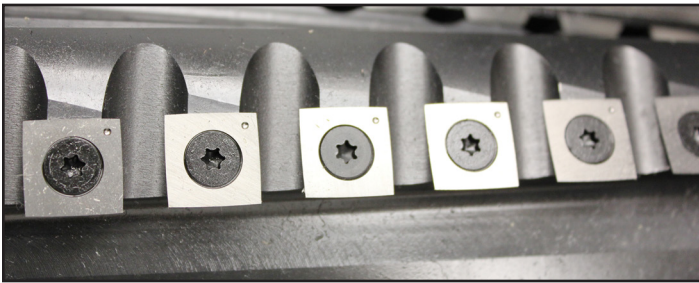

Figure 11: Cutterhead Inserts.
2. Remove the screw, responsible for securing the Insert in the cutterhead, along with the Insert Knife, use the Torx wrench provided with the machine, see Figure 11.
4. Rotate the insert to position a new, sharpened edge accordingly. Each insert is conveniently equipped with an indication mark on its top surface corner to facilitate the referencing of dulled or sharpened edges see Fig. (12).